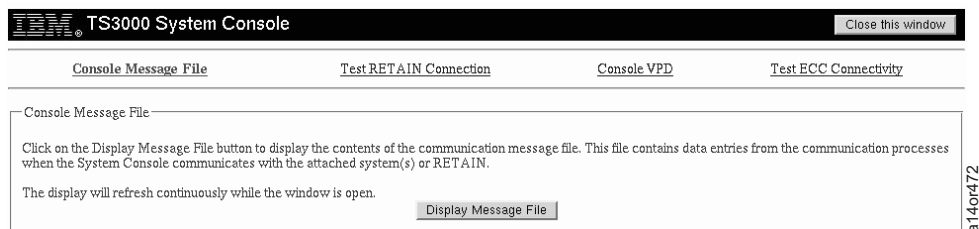
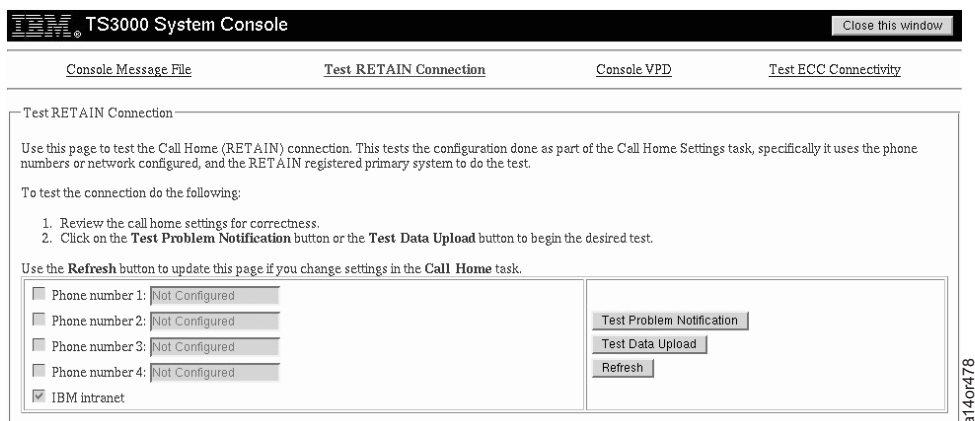
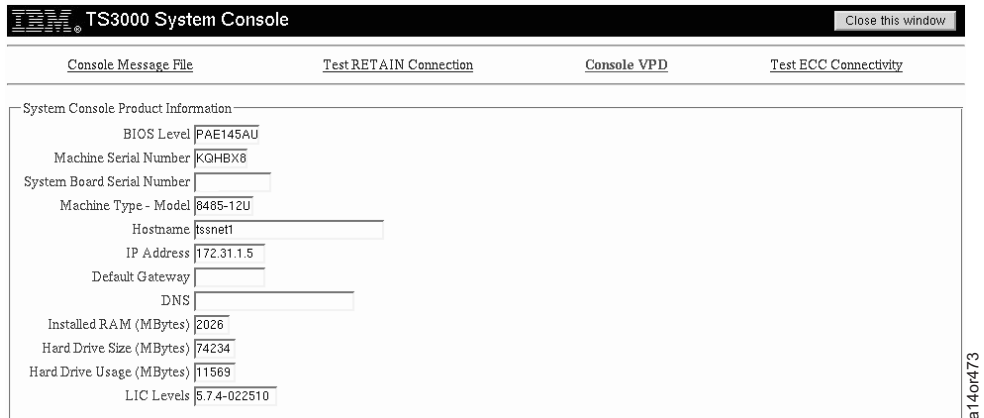

Figure 3-73. Console Message File Screen
Figure 3-75. Test RETAIN Connection Request Screen - As a Service Procedure
Figure 3-77. Console VPD Screen
4. Click **Console Status**. You see Figure 3-73.
1. From the Console Message File screen shown in Figure 3-73, select **Console Message File**.
1. From the Console Message File screen shown in Figure 3-73 on page 3-54, select **Test RETAIN Connection**. You see Figure 3-75.
From the Console Message File screen shown in Figure 3-73 on page 3-54, select **Console VPD**. You see Figure 3-77. The VPD information is listed for you in the System Console Product Information box.